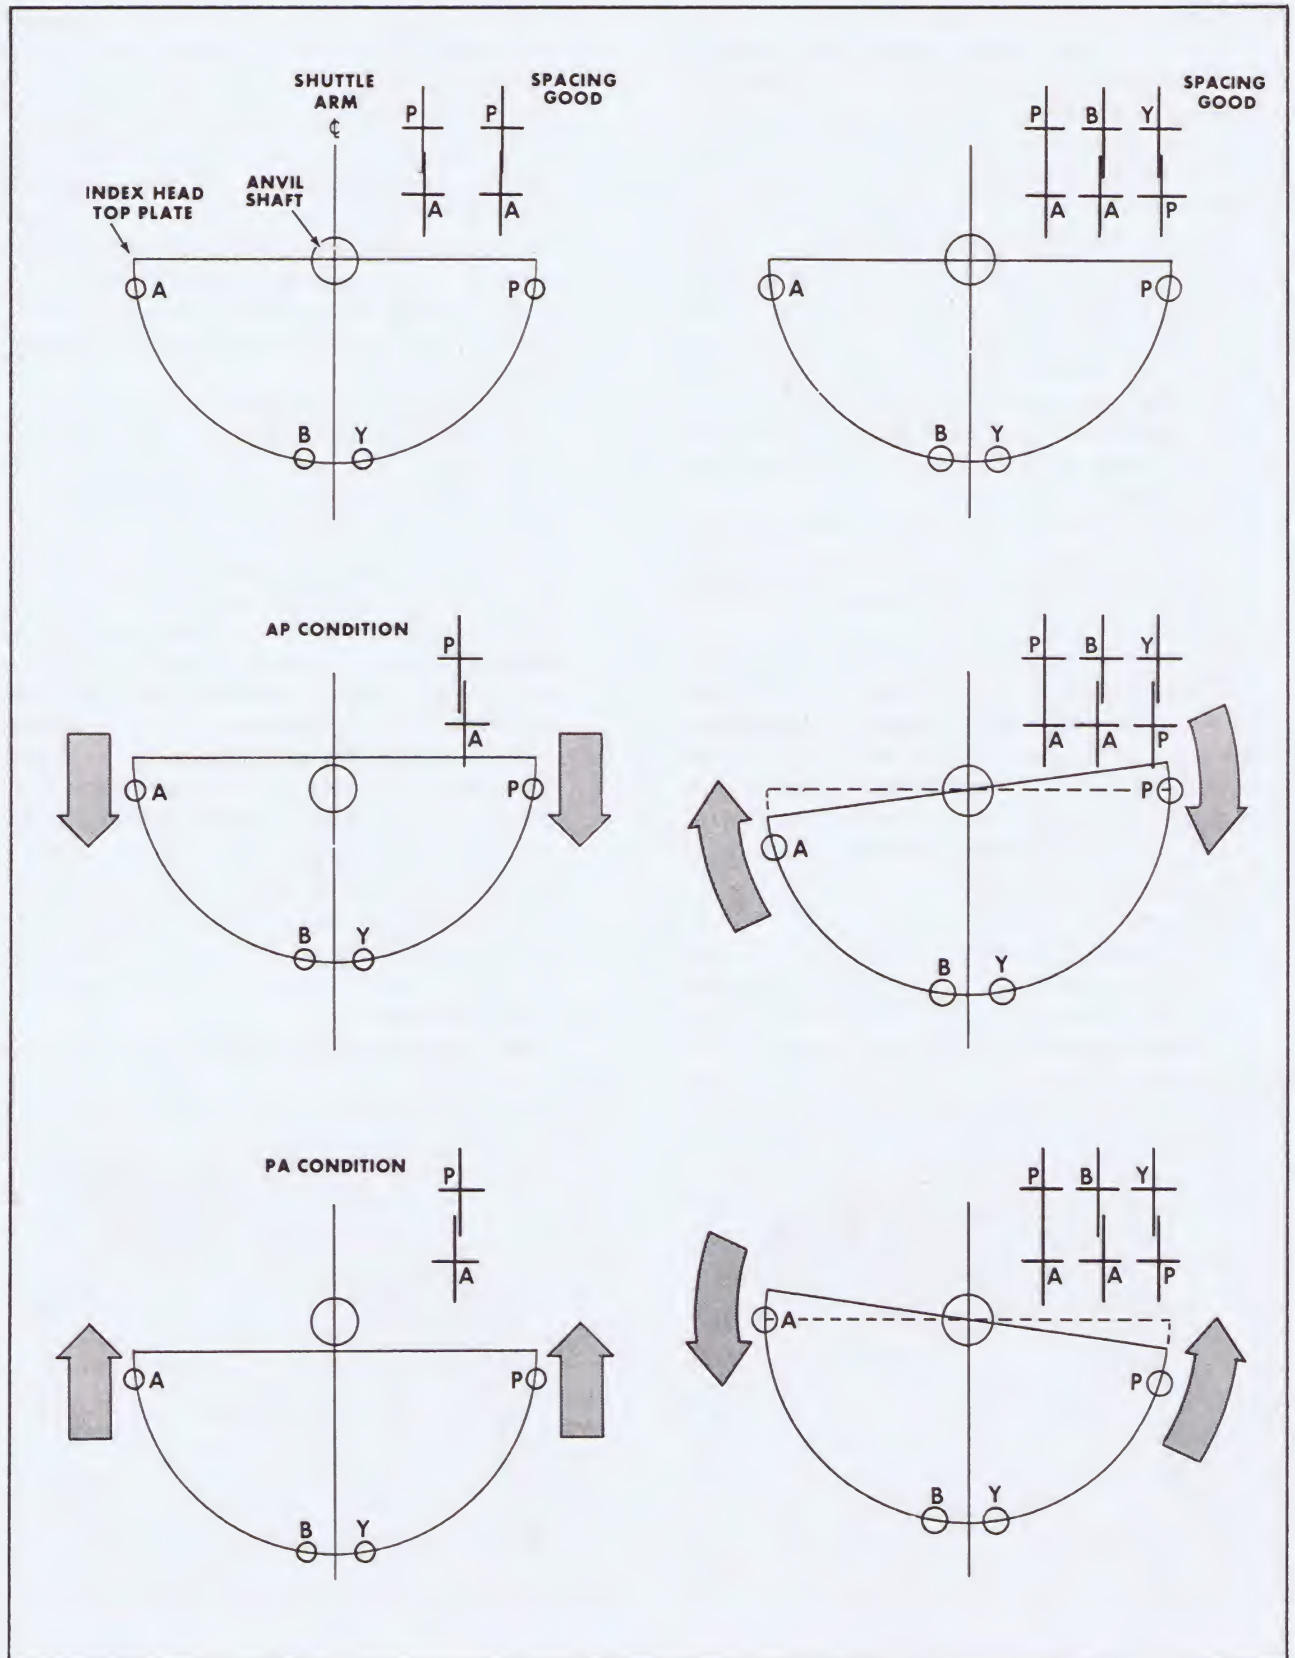

FIGURE 76
49. Machine Spacing (Figure 76)